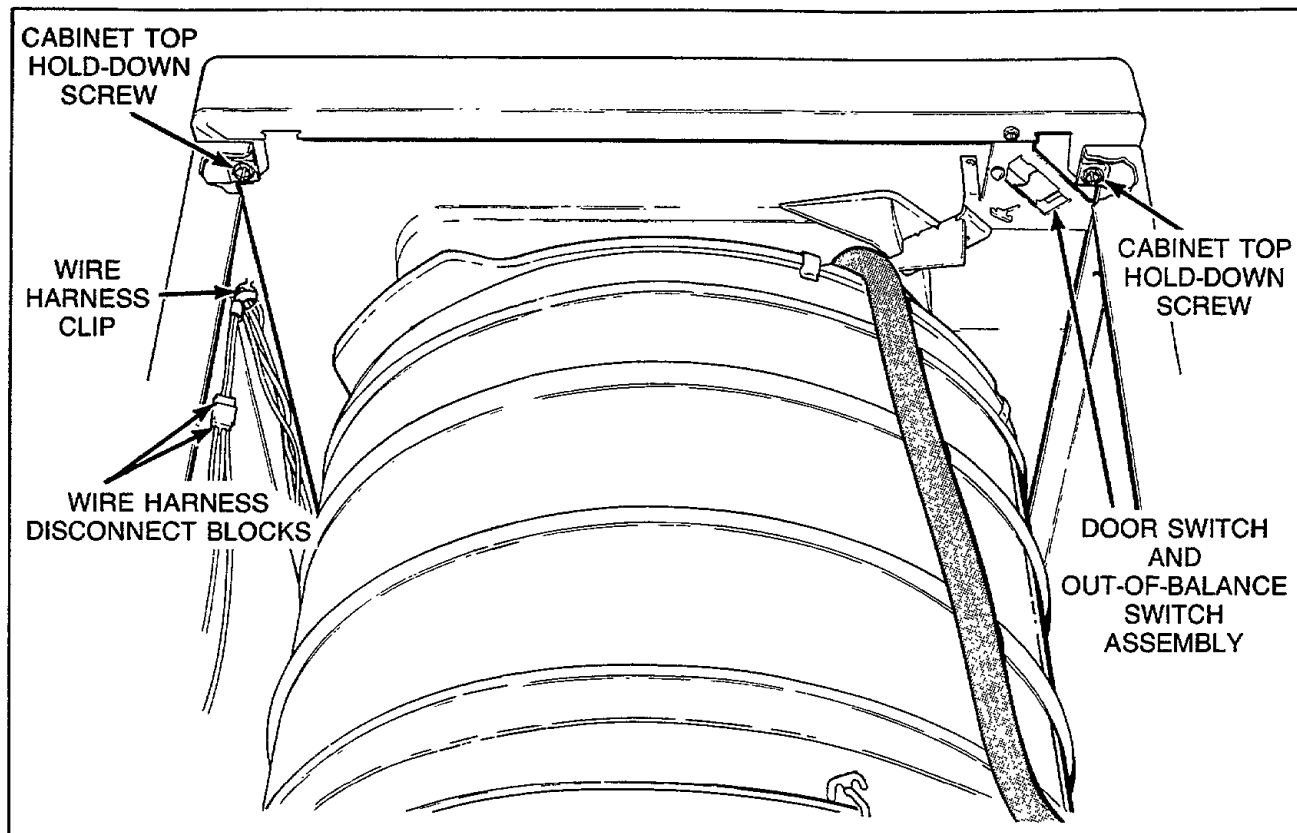

Figure 17
- Remove two cabinet top hold-down screws, *Figure 17*.
- c. Disconnect wire harness at disconnect blocks, *Figure 17*.